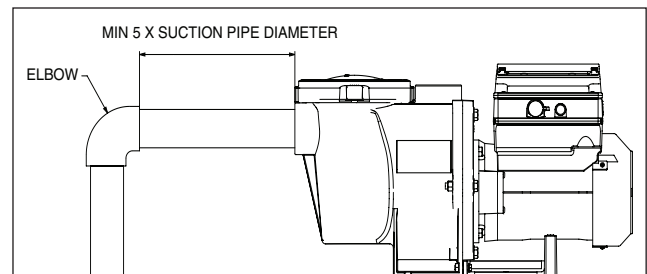

Figure 2: Recommended Piping
4. It is recommended that a valve, elbow or tee installed in the suction line should be no closer to the front of the pump than five (5) times the suction line pipe diameter. See **Figure 2**.